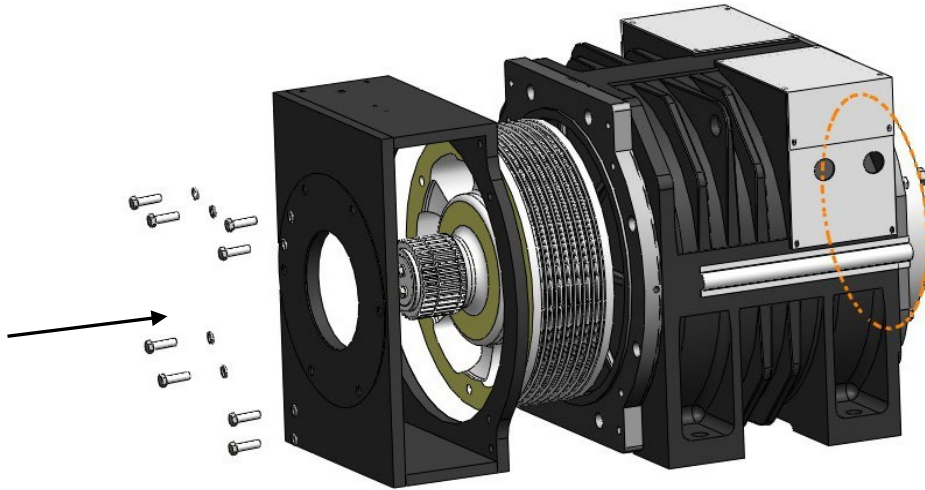

Figure 68 Install Brake frame
5. Hoist the brake frame of brake and install it, tighten eight bolts M12x40 (TMGL2/TMGL2A hexagon socket screw M12) with lock washer¹². See Figure 68.